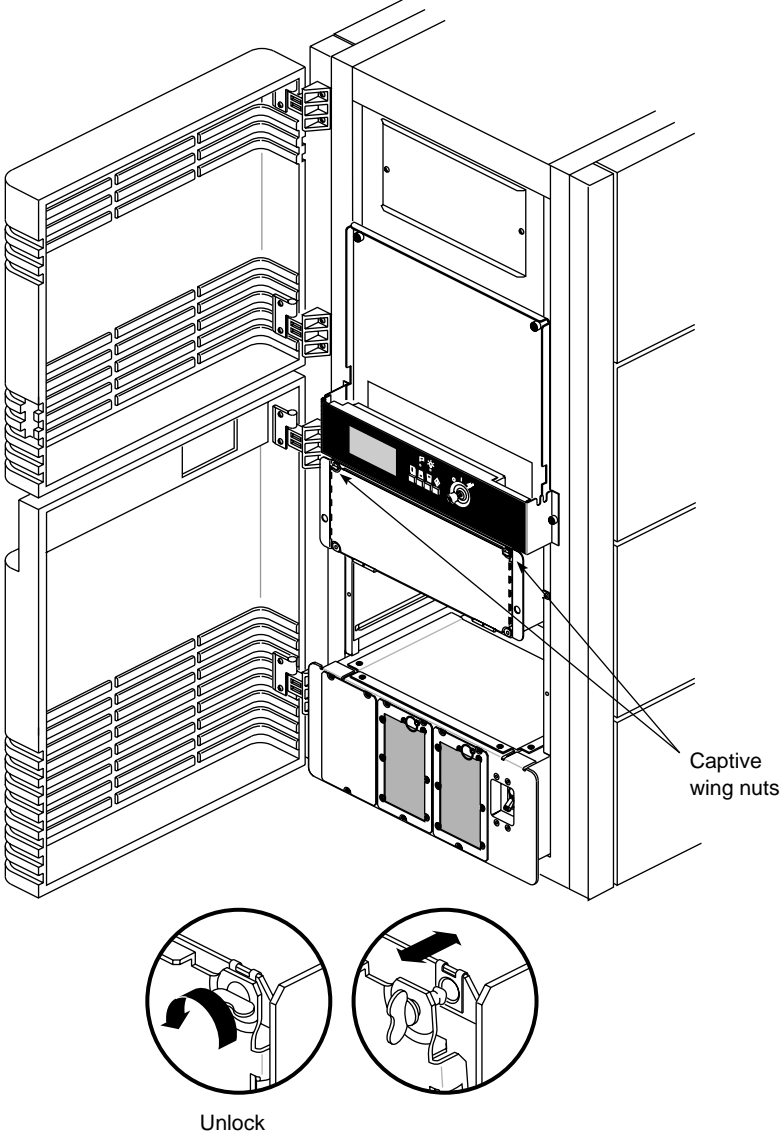

Figure 3-2 Opening the SCSIBox
3. Release the two captive wing nuts securing the SCSIBox door and allow the door to swing down (see Figure 3-2).